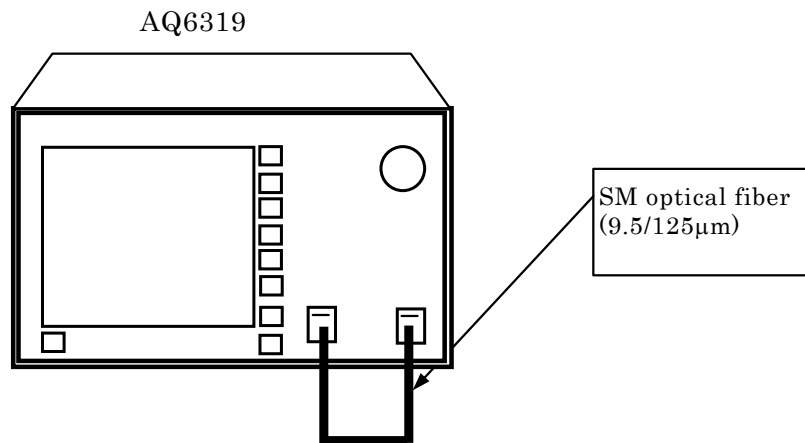

Fig. 4-3 Measurement system during alignment adjustment
- ② Use a 9.5/125 μm SM optical fiber to connect the unit's optical input connector with the optical output connector. (☛ See subsection 4.3.2 Connecting Optical Fibers and Fig. 4-3 Measurement System During Alignment Adjustment)